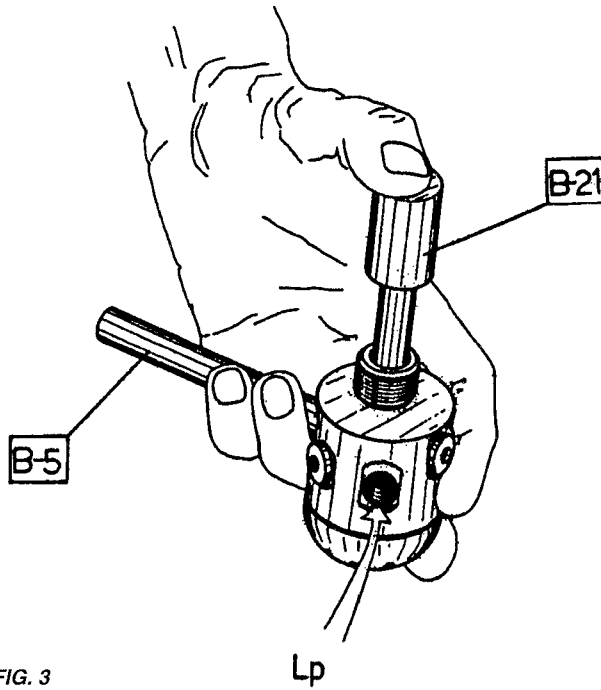

FIG. 3
- 6. Place the special tool (B-21) onto the first stage valve seat (75) and press lightly; introduce compressed air (less than 7 bar (100 PSI)) through a low pressure port (3/8"). (Fig. 3).